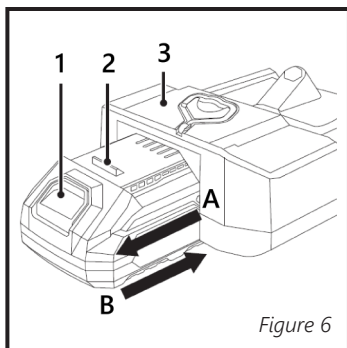

Figure 6
- To install the battery into the light, align the tabs on the battery with the guides on the bottom of the light (Figure 6), and slide the the battery unit into place in the direction of arrow B (Figure 6) until the battery clicks into place.